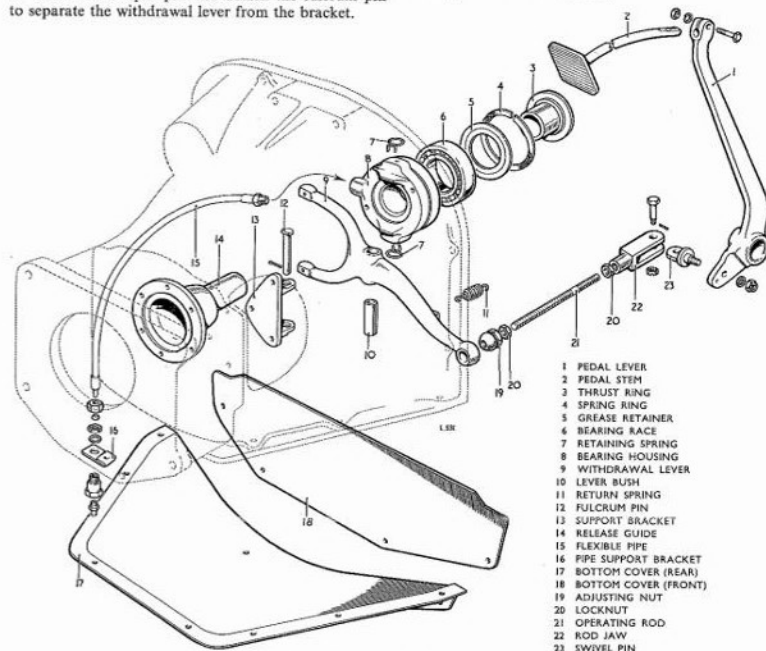

Fig. D.6. Details of the clutch release mechanism
1. Slacken the locknut (see Fig. D.6) and turn the spherically seated adjusting nut so that the effective length of the rod is altered, until the required free travel is obtained. Tighten the locknut.